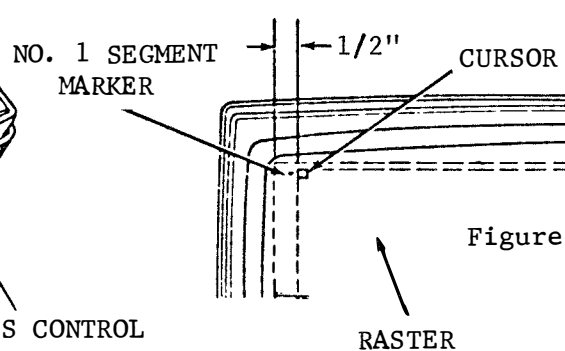

Figure 3
- Within 10 seconds the raster should be barely visible with the cursor at the top displaced approximately 1/2 inch from the left (home position). See Figure 3. If characters appear on monitor or if the cursor is not in home position, this is usually caused by power variations when the entire set is first turned on. In this instance depress HOME then CLEAR keys to home the cursor and clear the display.
- The no. 1 segment marker (-) should be displayed to the left of home position (Figure 3).
- The raster should be aligned horizontally and vertically to the respective lines of the cabinet (Figure 3).